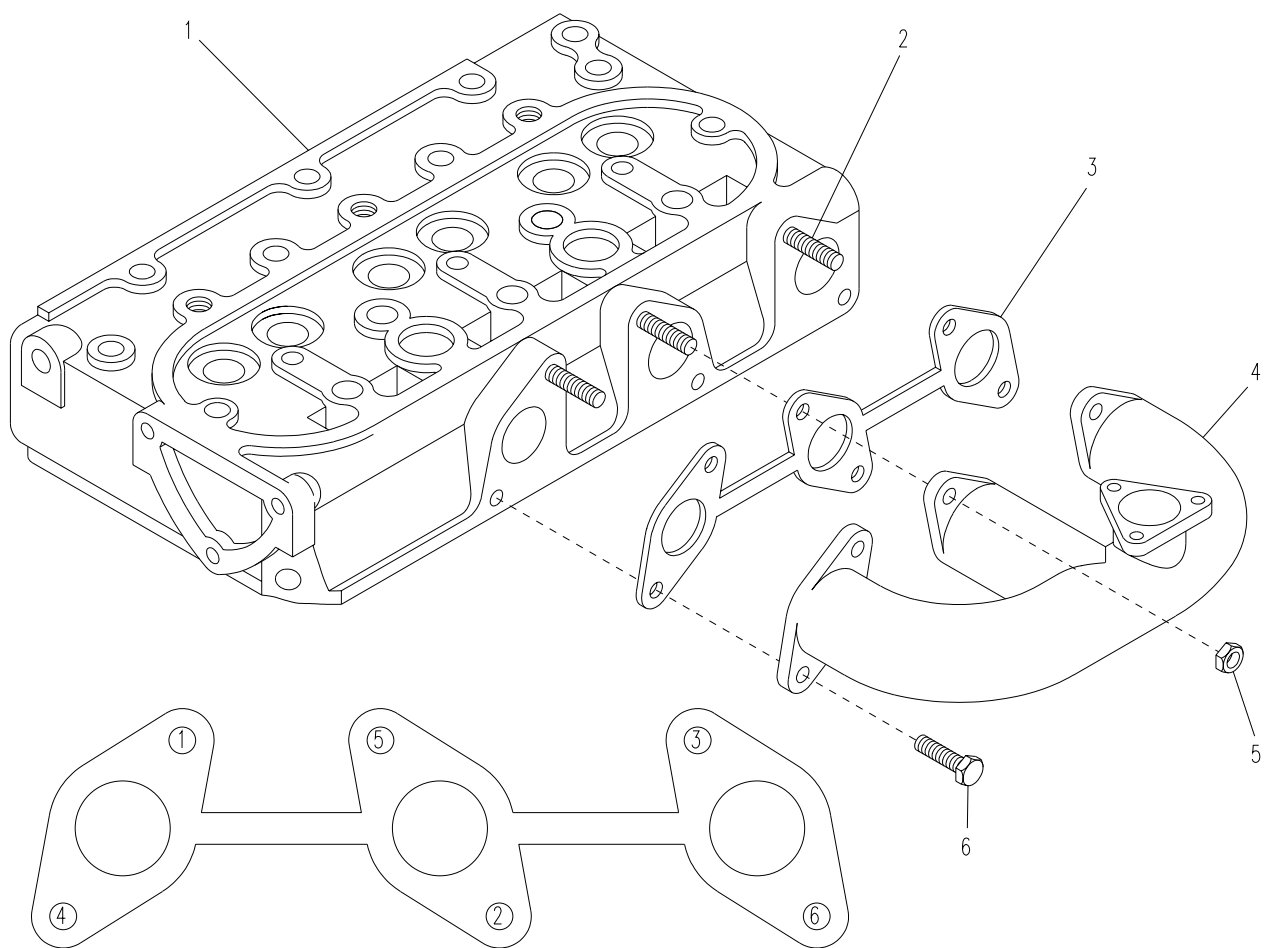

Figure 5-26. Exhaust Manifold
- a. Remove three nuts (5, Figure 5-26), bolts (6), exhaust manifold (4) and manifold gasket (3).
- b. Refer to Figure 5-26 for proper sequence and install manifold gasket (3) and exhaust manifold (4) on mounting studs (2), using three nuts (5) and three bolts (6). Torque between 13.0 and 15.2 ft-lbs (17.7 and 20.6 Nm).